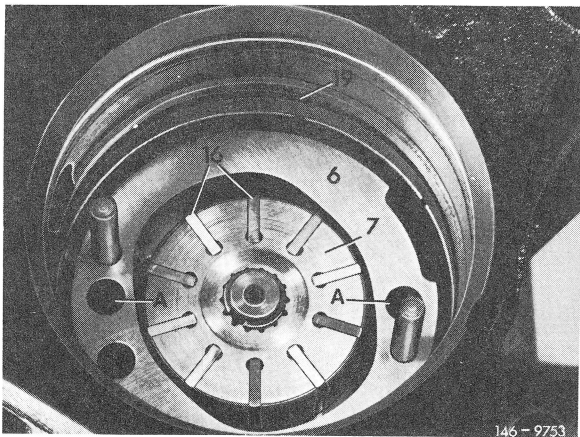

Fig. 5
5 Insert vane (16) (10 each) with rounded sides toward cam ring (6) into rotor (7) (Fig. 5 and 9).